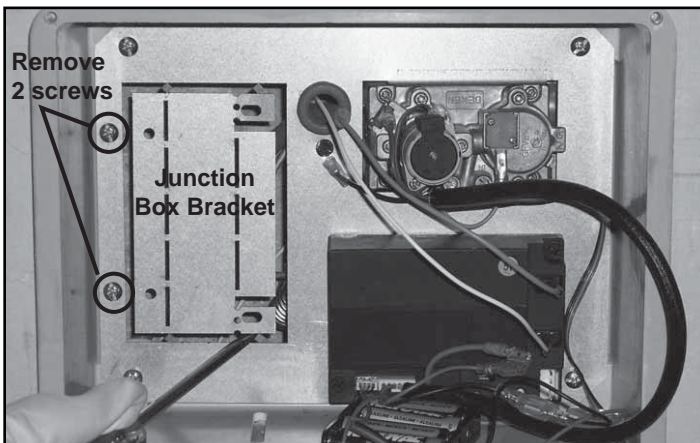
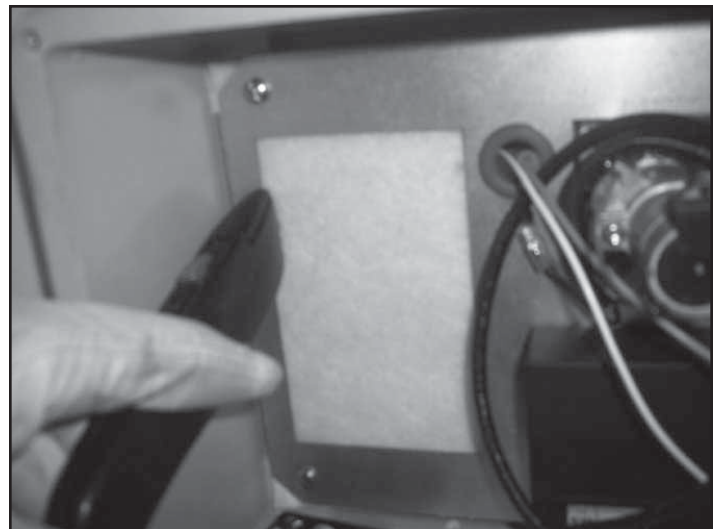

Figure 2. Remove Junction Box Bracket & Two Screws
Figure 3. Cut and Remove Insulation
- Remove the junction box bracket by prying loose with a screwdriver. Remove the two screws shown in Figure 2. Cut out and remove insulation from behind junction box bracket, Figure 3.
- Place junction box into the control box, matching holes as shown, and fasten with the two screws removed in Figure 2.